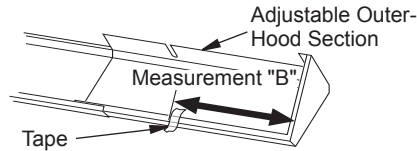

Figure 3 - Mark for Measurement "B"
4. Measure in from outside ends of adjustable outer-hood sections. Place a piece of tape on bent-under flange of adjustable outer-hood sections to mark the distance of Measurement "B" (see Figure 3).